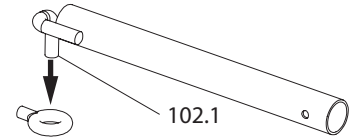
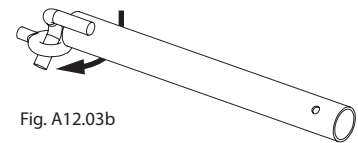

Fig. A12.03a
Fig. A12.03b
2. Turn the suspension hook (102.1) of the wall tie downwards and insert it into the eyebolt from above up to the stop. (Fig. A12.03a) Turn the wall tie clockwise so that the suspension hook is horizontal below the eyebolt. (Fig. A12.03b + A12.03c)